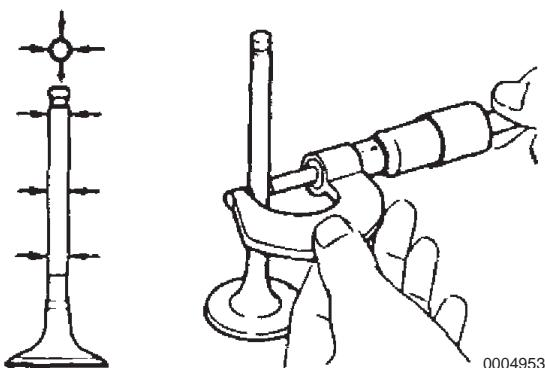

Figure 5-28
3. Measure the diameter of the valve stems using a micrometer (**Figure 5-28**).